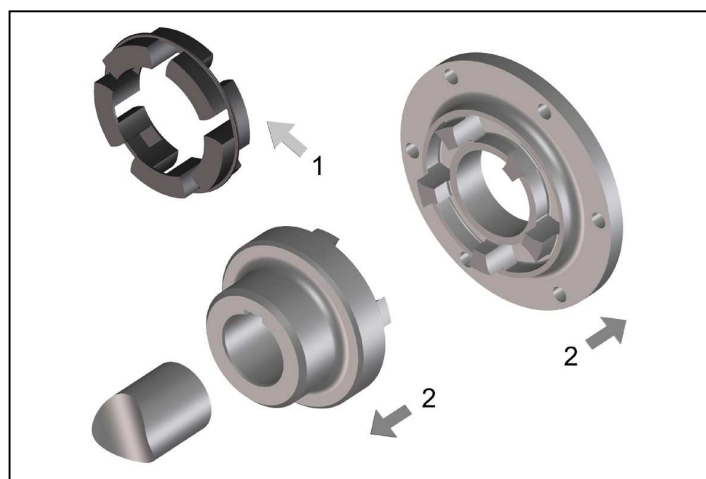

Fig. 4
- Remove the elastic intermediate ring (Figure 4, Pos. 1).
- Pull the flange hub onto the shaft end in its intended position (Figure 4, Pos.2).
- Mount the coupling flange onto the flange connection. Pay attention that the parts do not tilt during the joining onto the centring seat (Figure 4, Pos.2).